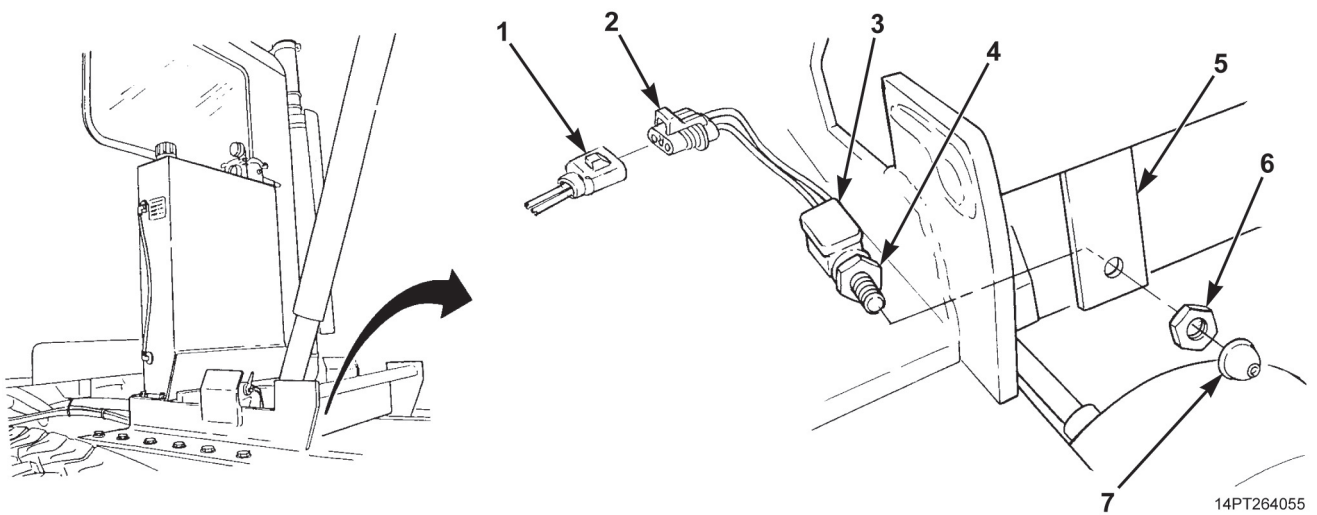

Figure 1. Transport Lock Switch Removal.
1. Disconnect transport lock switch connector (Figure 1, Item 2) from wiring harness connector (Figure 1, Item 1).
2. Remove button (Figure 1, Item 7), nut (Figure 1, Item 6), and transport lock switch (Figure 1, Item 3) from chassis mount (Figure 1, Item 5).
3. Remove jamnut (Figure 1, Item 4) from transport lock switch (Figure 1, Item 3).